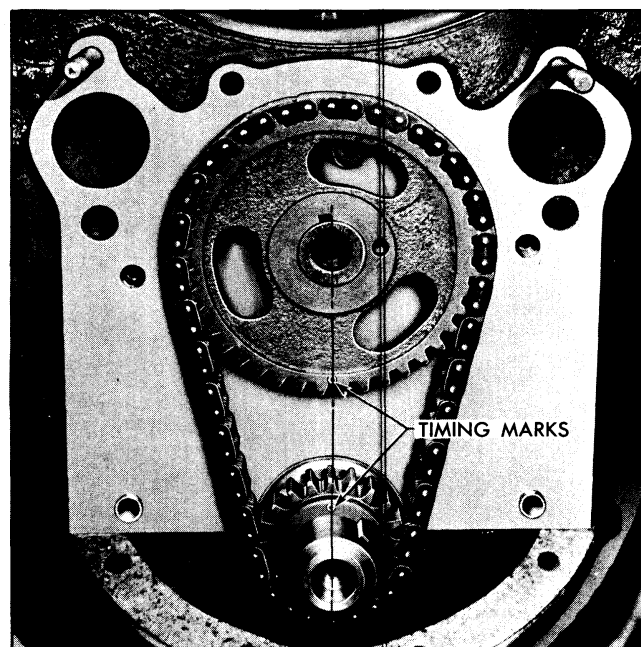

Fig. 6-47 Aligning Timing Marks
5. Install new timing chain and/or sprockets making sure marks on timing sprockets are aligned exactly on a straight line passing through the shaft centers (Fig. 6-47). Camshaft should extend through sprocket so that hole in fuel pump eccentric will locate on shaft.
3. Install timing chain sprockets and timing chain, making sure marks on sprockets are aligned properly (Fig. 6-47).